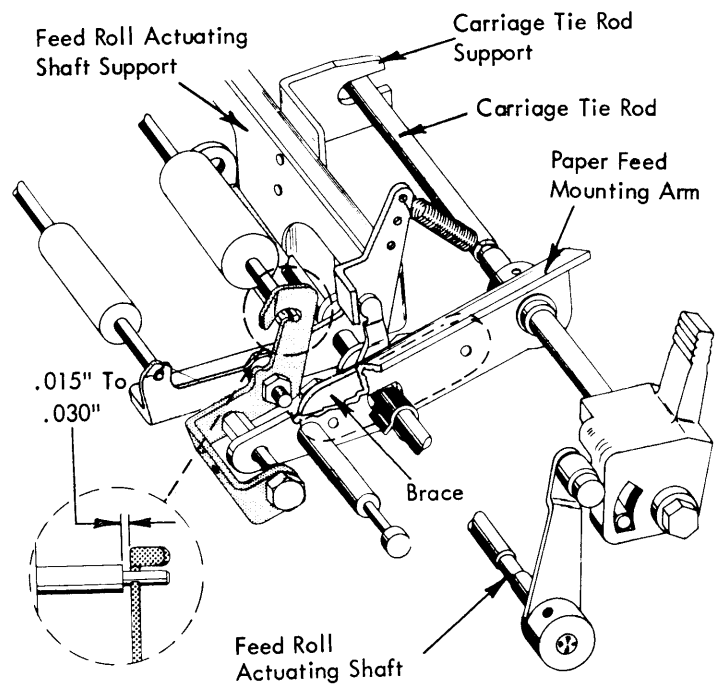

FIGURE 179. Paper Feed Mechanism
2. Paper Feed Braces - (old style paper feed mechanism only) With the feed roll tension springs disconnected the adjustable braces fastened to the paper feed mounting arms should be adjusted all the way forward without deflecting either the feed roll actuating shaft or the carriage tie rod (Fig. 179).
- a. Old Style Paper Feed Mechanism - With the feed roll tension springs disconnected, the vertical supports for the carriage tie rod and the feed roll actuating shaft should be adjusted to just touch the bottom of each shaft (Fig. 179). The feed roll actuating shaft support should be loose when the tie rod support is adjusted.
- a. Old Style - The right hand paper feed mounting arm on the 721 and the left and right hand paper feed mounting arms on the 723 and 725 should be adjusted to provide the rear feed roll shafts with an end play of .015" to .030" when the feed rolls are against the platen (Fig. 179).